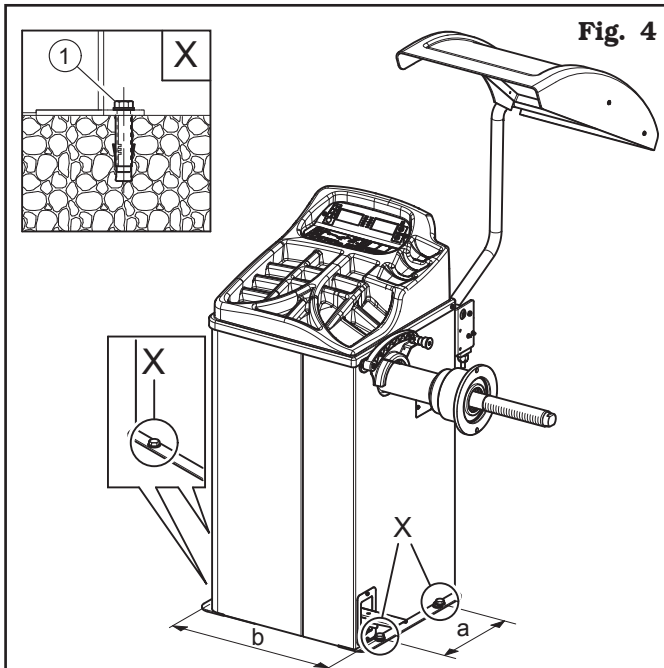

Fig. 4
The packed machine is fixed to the support pallet through the holes prearranged on the frame. Such holes can be used also to fix the machine to the ground, through floor anchor small blocks (excluded from supply). Before carrying out the definitive fixing, check that all the anchor points are laid down flat and correctly in contact with the fixing surface itself. If not so, insert shimming profiles between the machine and the fixing lower surface, as indicated in **Fig. 4**.
- fix the machine to the ground with 4 M8x80 mm screws (excluded from supply) (**Fig. 4 ref. 1**) (or with 4 8x80 mm stud bolts (excluded from supply)). Tighten the screws with an approximate tightening torque of 70 Nm.